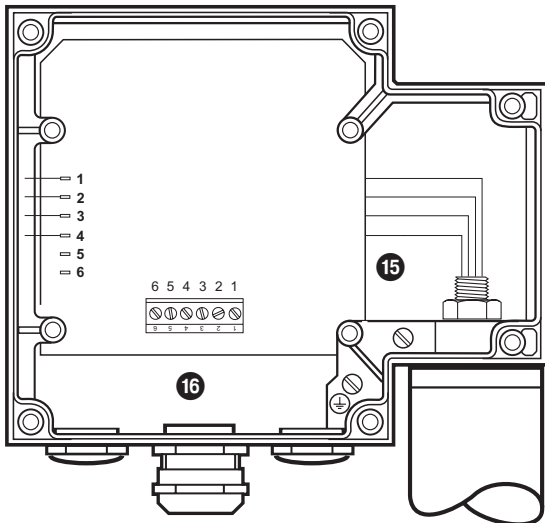

Fig. 14
2. Remove cable lugs from terminal lugs. **Fig. 14**
3. Loosen nut ⑮ with 19 mm open-end spanner but do not remove! **Fig. 14**
4. Screw in level electrode as described in step 2, items 7 – 10.